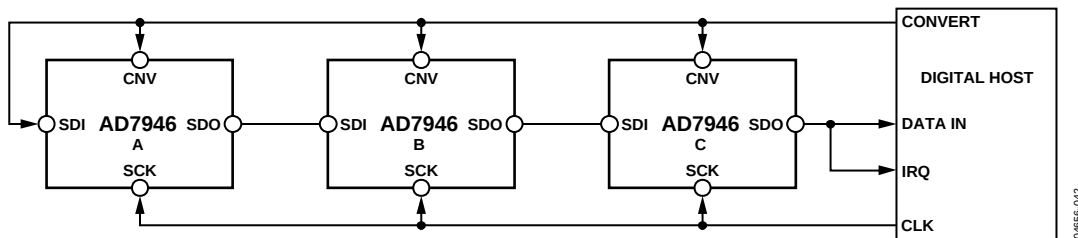
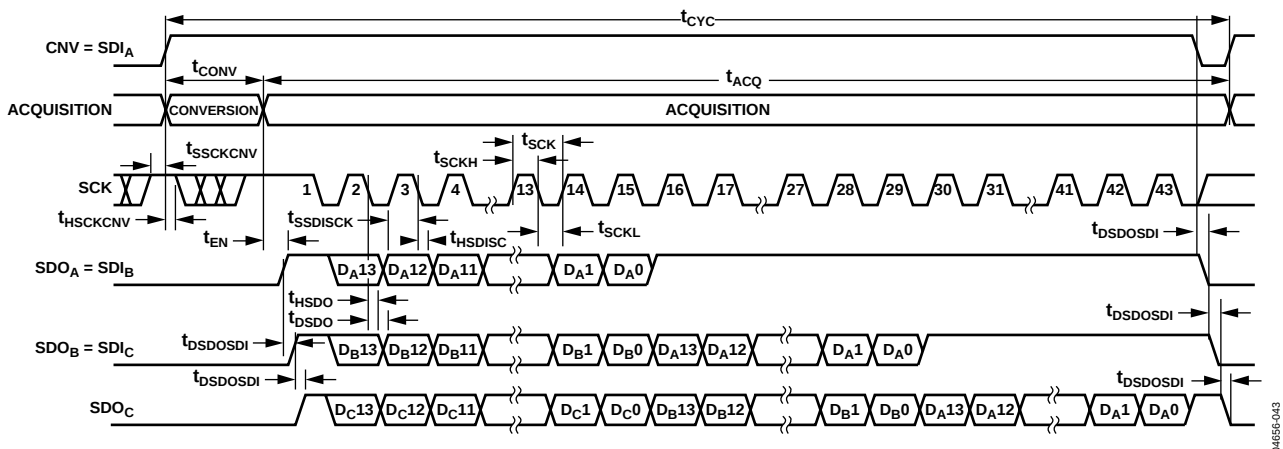

Figure 43. Chain Mode with BUSY Indicator Connection Diagram
Figure 44. Chain Mode with BUSY Indicator Serial Interface Timing
- In chain mode, if SCK is high during the CNV rising edge (Figure 44).
A connection diagram example using three AD7946s is shown in Figure 43, and the corresponding timing is given in Figure 44.
When SDI and CNV are low, SDO is driven low. With SCK high, a rising edge on CNV initiates a conversion, selects the chain mode, and enables the BUSY indicator feature. In this mode, CNV is held high during the conversion phase and the subsequent data readback. When all ADCs in the chain have completed their conversions, the near-end ADC (ADC C in Figure 43) SDO is driven high. This transition on SDO can be used as a BUSY indicator to trigger the data readback controlled by the digital host. The AD7946 then enters the acquisition phase and powers down. The data bits stored in the internal shift register are then clocked out, MSB first, by subsequent SCK falling edges. For each ADC, SDI feeds the input of the internal shift register and is clocked by the SCK falling edge. Each ADC in the chain outputs its data MSB first, and $14 \times N + 1$ clocks are required to readback the N ADCs. Although the rising edge can be used to capture the data, a digital host using the SCK falling edge allows a faster reading rate and consequently more AD7946s in the chain, provided the digital host has an acceptable hold time. For instance, with a 3 ns digital host setup time and 3 V interface, up to four AD7946s running at a conversion rate of 360 kSPS can be daisy-chained to a single 3-wire port.